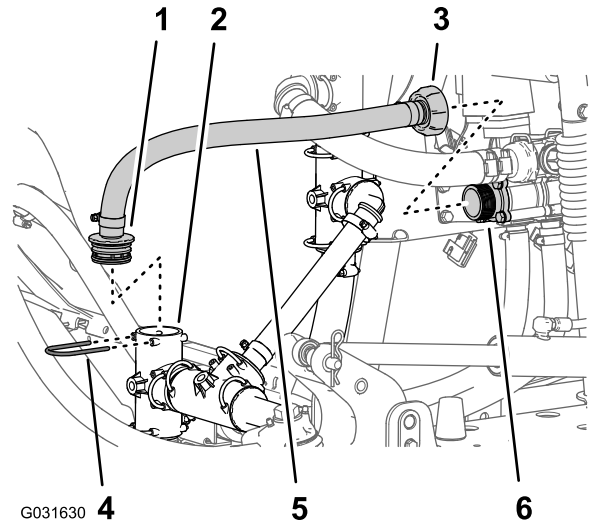

Figure 35
4. Remove the retainer that secures the straight-barbed fitting of the bypass hose to the T-fitting at the sprayer pump (Figure 35).
5. Loosen the adapter nut at the inboard end of the bypass hose from the adapter fitting of the bypass valve (Figure 35).
6. Remove the hose from the machine (Figure 35).